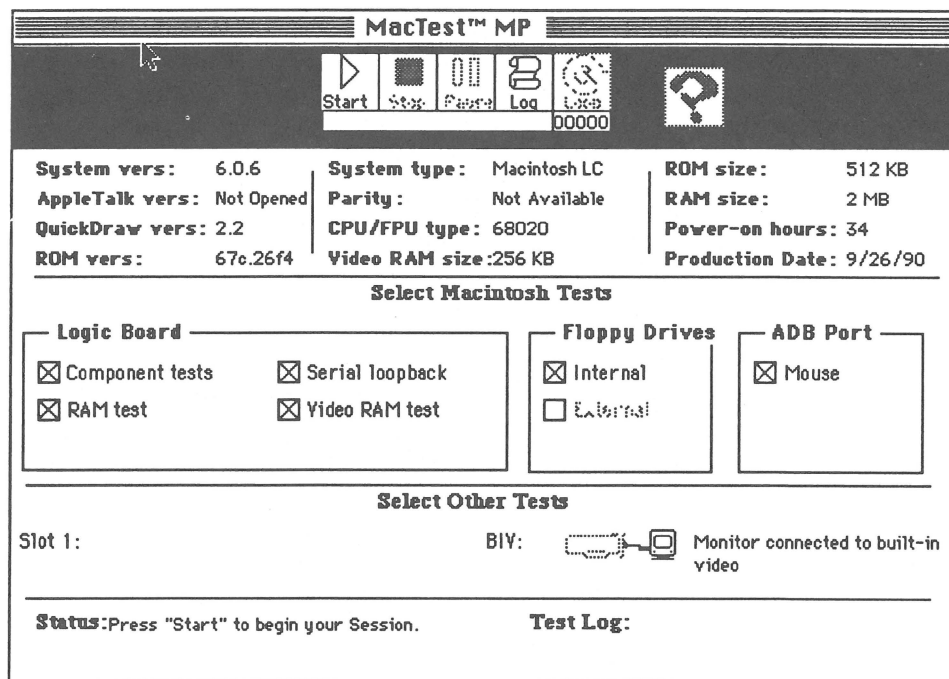

Figure 3-4 MacTest MP Main Window
4. From the main window shown in **Figure 3-4**, deselect any default tests that you do not want to run at this time. Clicking in a box marked with an "x" deselects that test.
5. **Figure 3-4.** To test the video RAM, make sure **Video RAM Test** is selected. If the **Video RAM Test** selection box is blank, click on the box to select it.
6. **Figure 3-4.** To display the monitor adjustment test patterns, first click on the monitor icon in the lower right corner of the main window. The monitor icon is highlighted to indicate its selection.
7. **Figure 3-4.** Now click the Start icon at the top of the main window to proceed. You will encounter one or both of these scenarios: